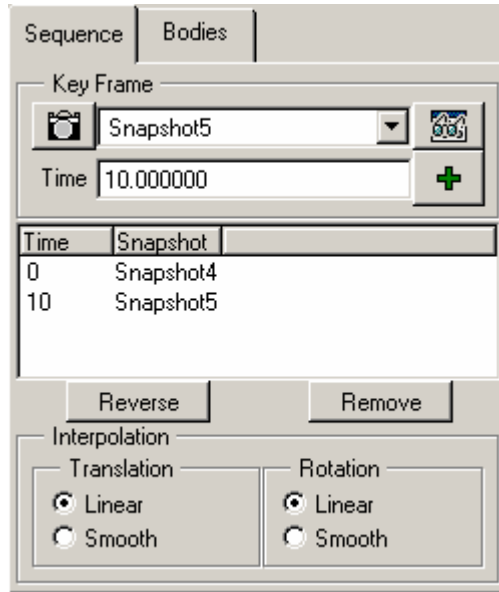

Figure 12-114: Key Frame Sequence Dialog box
- Step 16:** **Modify Snapshot5** (see Figure 12-114) to have a value of 10 seconds.